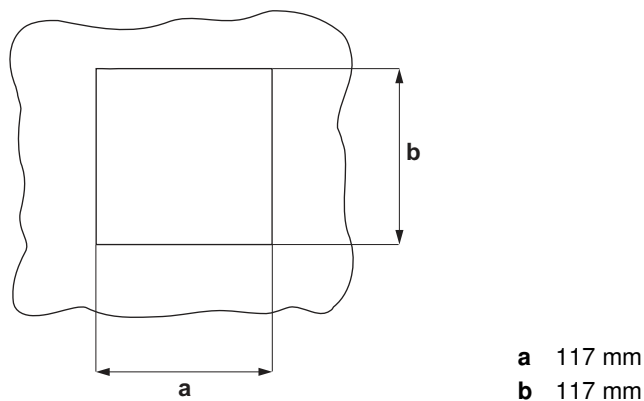

Fig. 3 Control cabinet section
1. Create a control cabinet section, see Fig. 3, page 13.
4. Place the electronic unit with the front frame from the front into the control cabinet section, see Fig. 3.